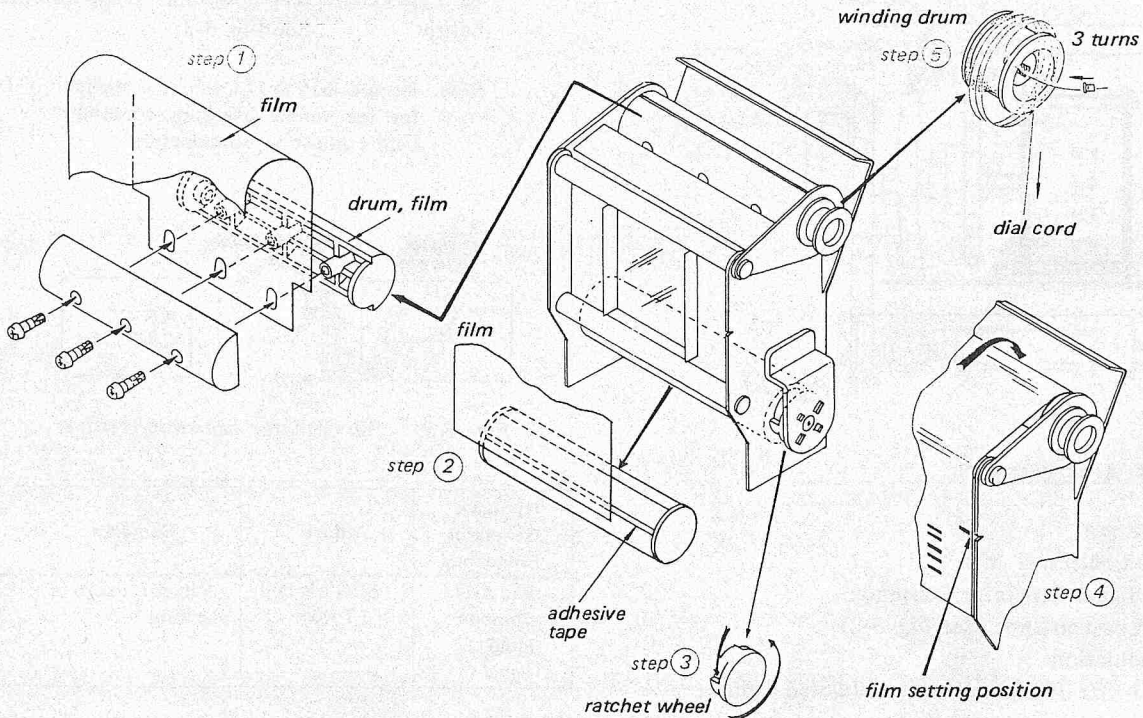

Fig. 2-29
1. Set the top of dial film to the film-drum as shown in Fig. 2-29 (step ①).
2. Attach the other end of dial film with an adhesive tape (step ②).
3. Turn the ratchet-wheel four turns in the direction shown by the arrow (step ③).
5. String the dial cord as shown in Fig. 2-29 (step ⑤).